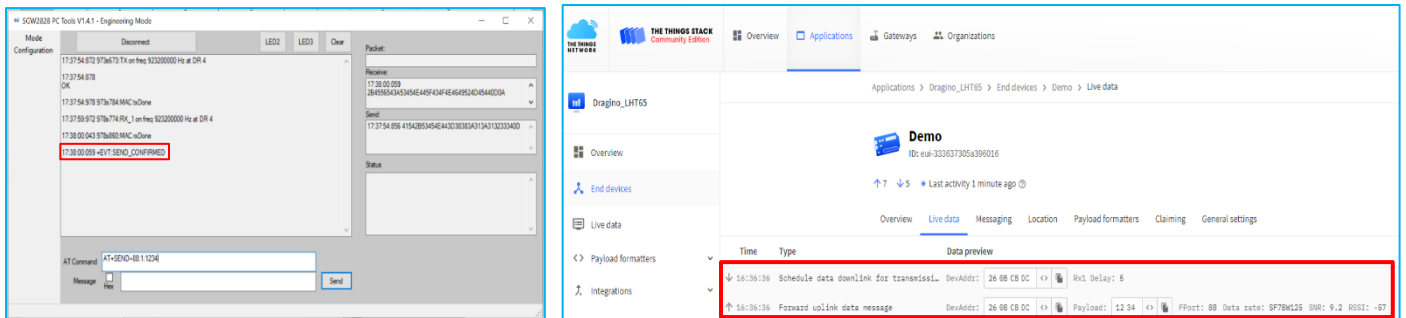

Figure 9: AT Command for send message
2. Send Hex data message: **AT+SEND=portnumber:confirmedmode:message** (Figure 9), or Send ASCII data message: **AT+SNDTXT=portnumber:confirmedmode:message**